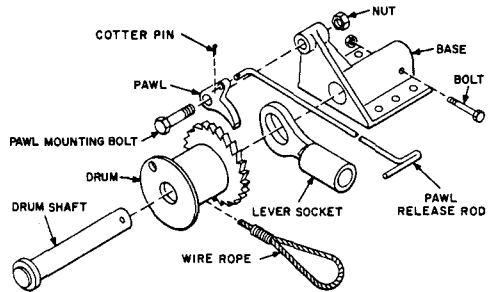

Fig. 3—Load Binding Winch Assembly Parts
3.03 Load binding winch assemblies consist of the base for mounting on the trailer rear framework, a ratchet-controlled hand-lever-operated winch, a removable handle, and a wire rope sling. One end of the wire rope is attached to the winch drum and the other end is provided with an eye for attaching to the rope knob. A spring-loaded pawl and release bar control the take-up and release of the drum. Parts for the permanently mounted, load binding winches are the same in name and form and are illustrated in Fig. 3.